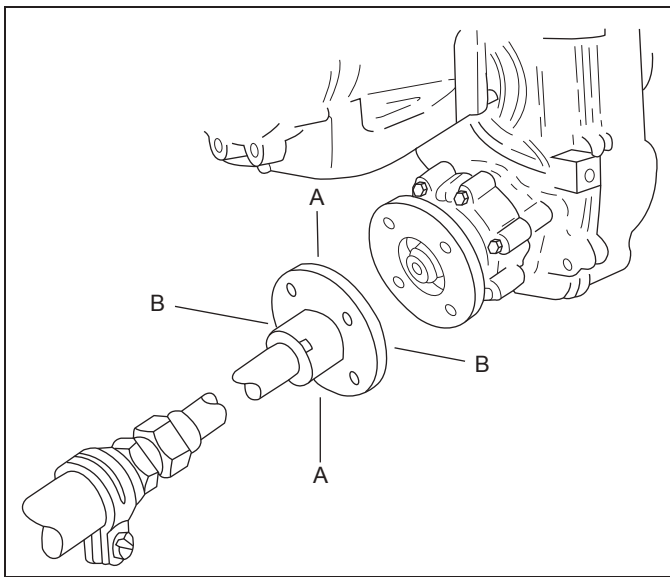

Figure 11-24 Centering Prop Shaft
2. Center the propeller shaft in the shaft log as follows: (Figure 11-24)